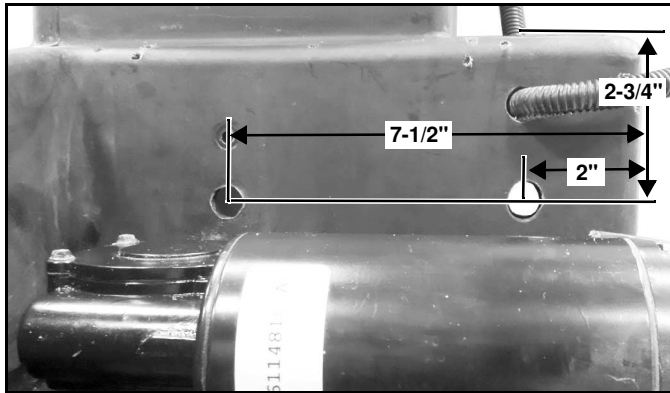

Figure 1-11
3. From the corner where the power harness runs, draw a horizontal line 2-3/4" down. (See Figure 1-11)